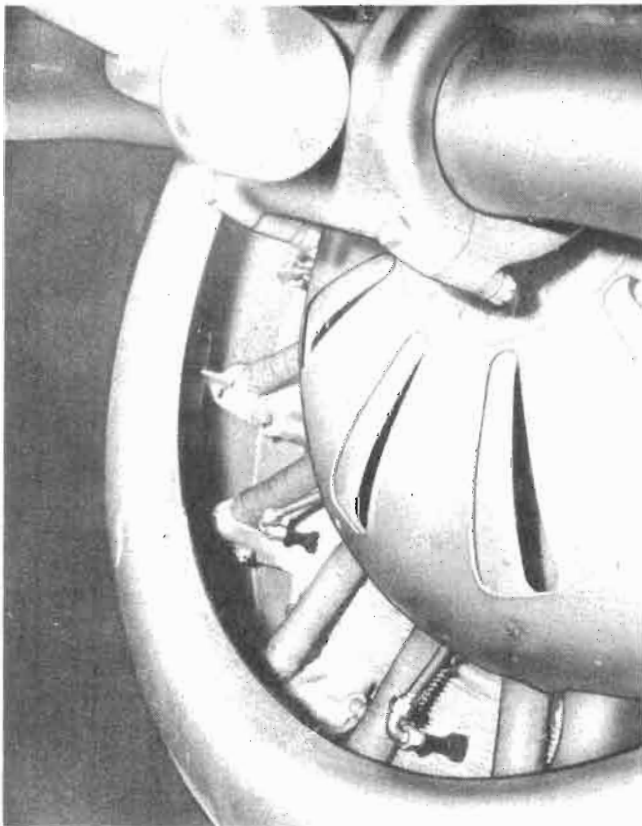

Figure 400 — Engine Cowl Nose Shutters and Engine Push Rod Lagging
b. ENGINE VALVE PUSH ROD LAGGING.—(See figure 400.)—The engine push rod housing of airplanes equipped with special winterization facilities are lagged with woven asbestos tape and winterproofed with clear varnish. The ends of the lagging are secured with wire. Protection afforded by the lagging prevents the congealing of oil in the housings and the malfunction of push rods.